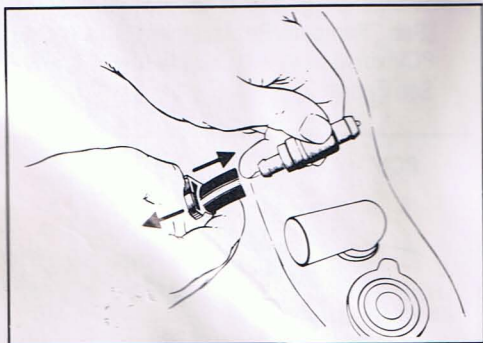

Figure 3 - PCV valve removed from hose
3. Separate the PCV valve from its hose by holding the hose steady and pulling the PCV valve with a twisting motion. See Figure 3.